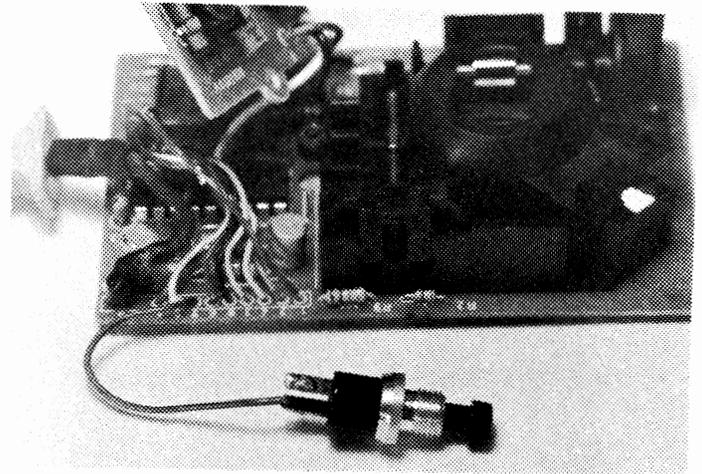

Figure 5
Step 12. Solder one terminal of the Radio Shack switch to the other end of the new wire--see Figure 5. (Remove the nut and lock washer; we won't be using them.)